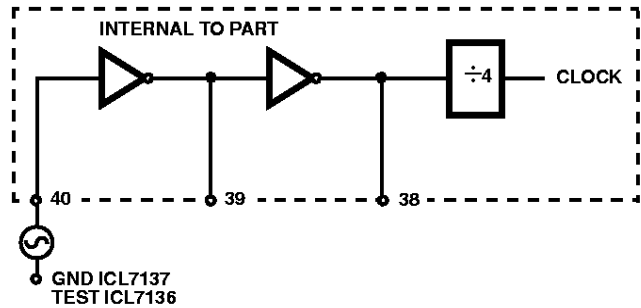

FIGURE 9A. EXTERNAL OSCILLATOR
1. Figure 9A, an external oscillator connected to pin 40.